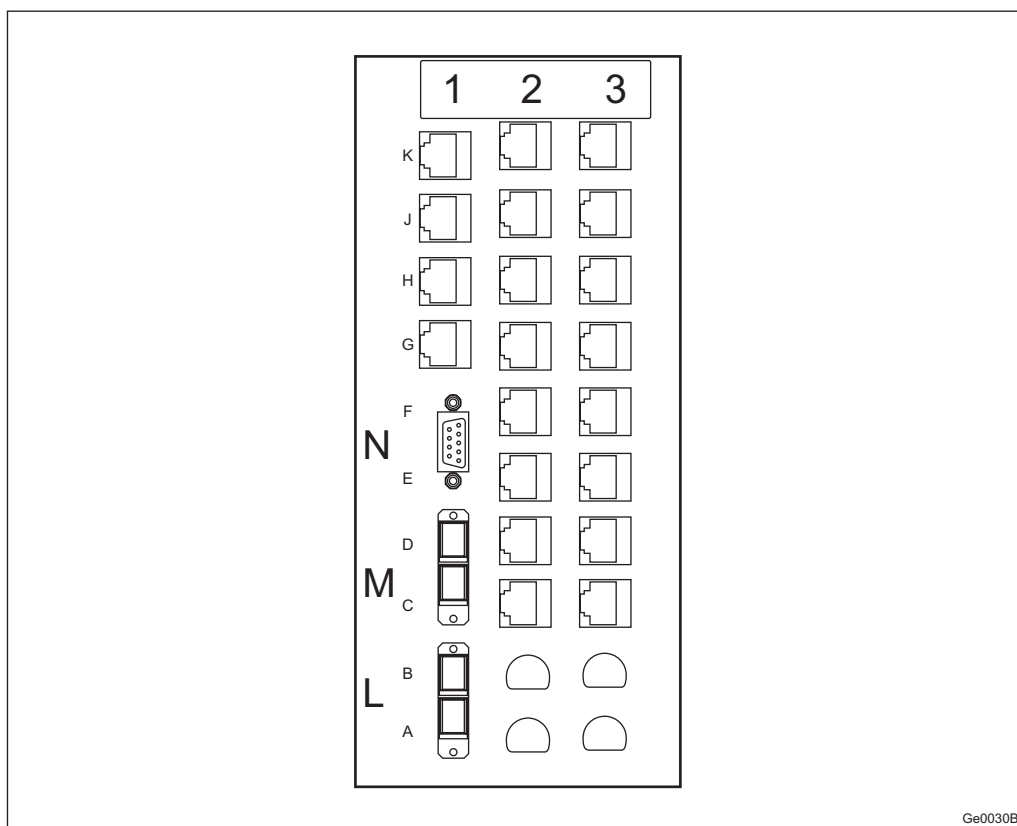

Figure 21 CF
If the RBS is equipped with a CBU and some connections are made from a Connection Field (CF) as shown in Figure 21 on page 31.